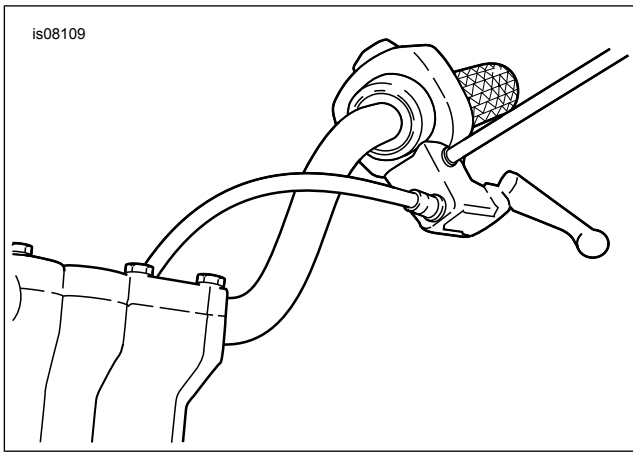

Figure 2. New Clutch Cable Routing
10. See Figure 2. Relocate clutch cable to the inside of the handlebars:
- d. See Figure 2. Reroute clutch cable to the inside of the handlebars and reconnect clutch cable to clutch lever by reversing step c.